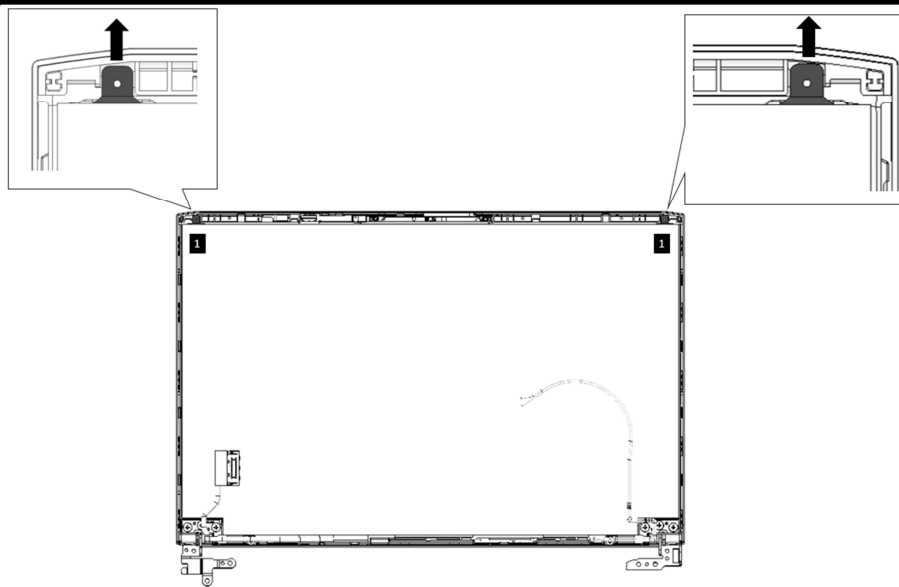
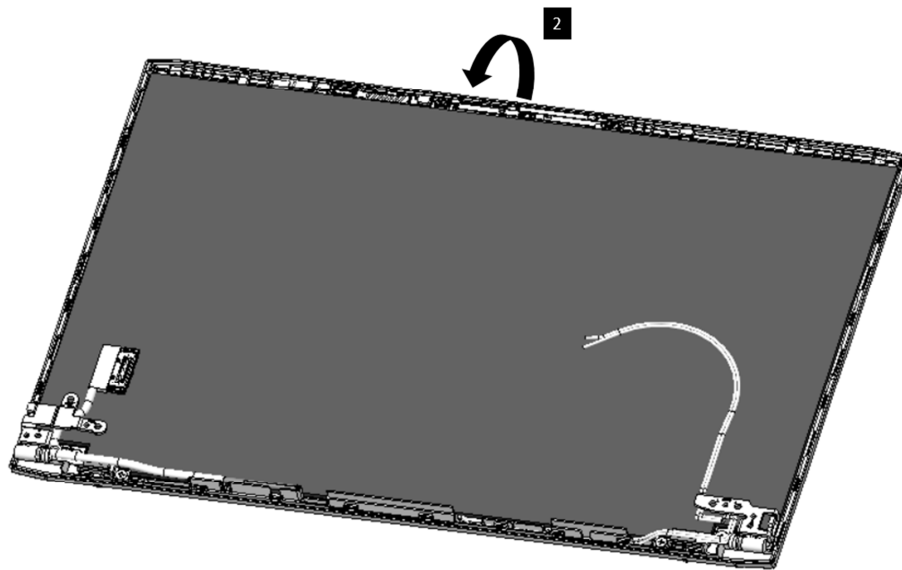
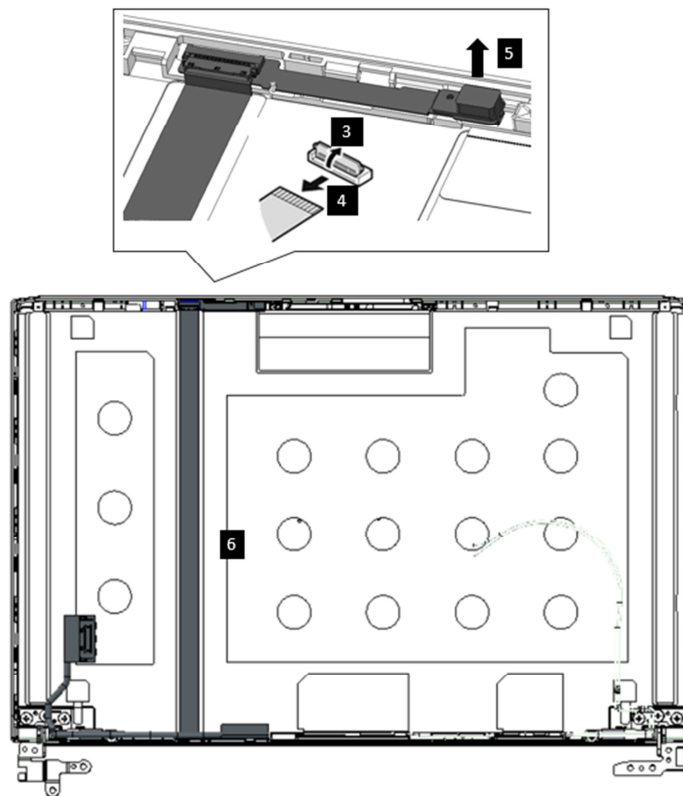

Figure 4-20 Removing the Panel Adhesive
Figure 4-21 Removing the Panel Assembly
Figure 4-22 Disconnecting the eDP Cables FFC from Camera FPC Assembly
Remove the panel Assembly according to the following procedures and Figure 4-20 and Figure 4-21 and Figure 4-22 and Figure 4-23.
1. Pull up the adhesive from LCD cover ,1 as shown in Figure 4-20.
2. Carefully lift up and rotate the panel from the LCD assembly as the arrow ,2 indicates in Figure 4-21.
3. Place the panel on a protective surface, such as a foam pad as shown in Figure 4-22.
4. Disconnect the eDP cable FFC from Camera FPC ,3 ,4 ,5 and Gently pry up the Camera FPC ,6 as shown in Figure 4-22.
3. Connect the eDP cable FFC to the camera FPC board connector as shown in Figure 4-22.  ,6  ,5  ,4  ,3
7. Connect the eDP cable FFC to the camera FPC board connector as shown in Figure 4-22.